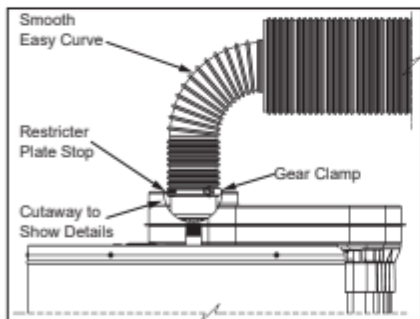
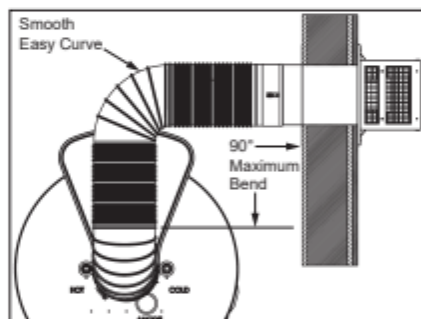
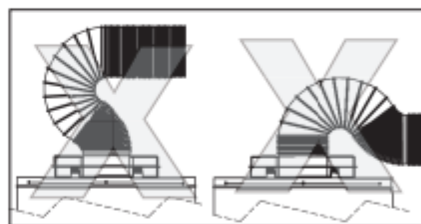

Figure 12 - Vent Connection to the Water Heater
Figure 14 - Venting Alignment (Top View)
Figure 15 - Bad Venting Configurations
Figure 14 through Figure 18 show various installation options.
- Do not use the restricter plate in an offset installation (see Figure 14).
Bend both the corrugated pipes toward the flue connection on the water heater. Pull and connect the inner corrugated pipe to the water heater's flue tube reducer with hi-temp red silicone (included) and gear clamp. Make sure this connection is tight and leak proof (see Figure 12).
NOTICE: To ensure good exhaust gas flow, bend vent piping using a smooth, easy curve as shown in Figure 12 through Figure 14. Do not use reverse or compound curves as shown in Figure 15.